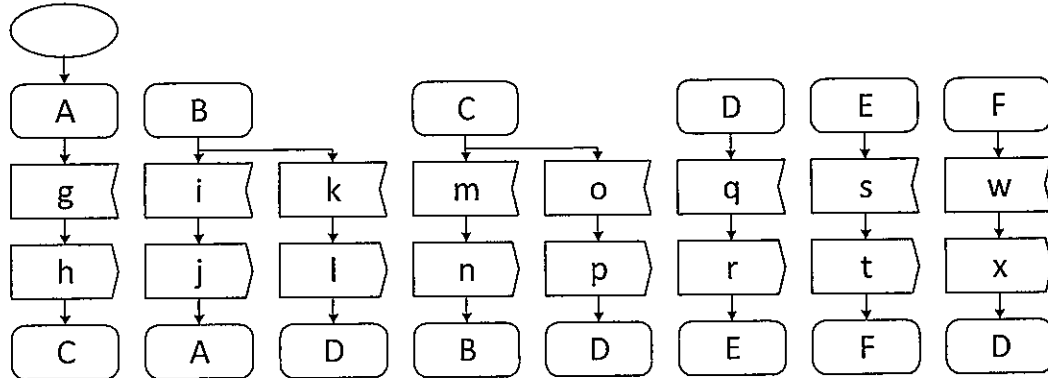

Figure Q4(a)
- (a) Convert the graphical Specification and Description Language (SDL) in Figure Q4(a) into the corresponding state diagram. [8 marks]